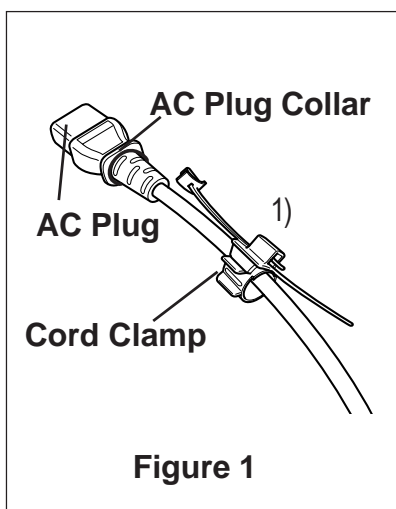

Figure 1
- 1) Open the AC Power Cord Clamp and insert the AC Power Cord (fig. 1). Close the Cord Clamp until it clicks into place around the AC Power Cord Collar.